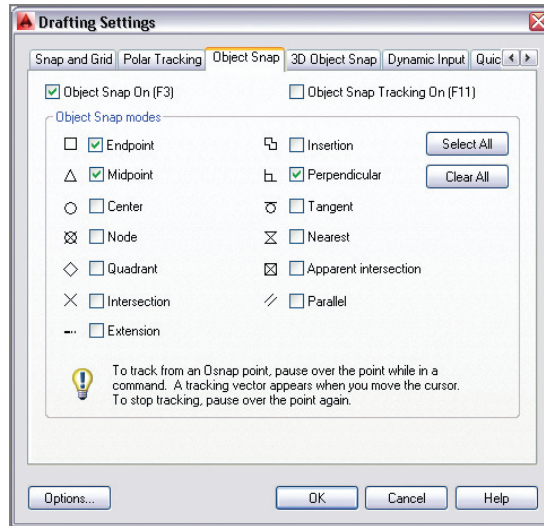

FIGURE 3.12 Turning on a few Running Object Snap modes
- Toggle on Object Snap on the status bar. Right-click the same icon, and choose Settings from the context menu. Click the Clear All button, and then select Endpoint, Midpoint, and Perpendicular (see Figure 3.12). Click OK.